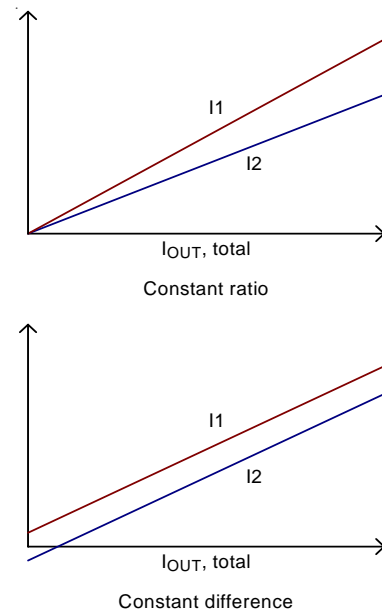

Figure 10. Category of Phase Current Imbalance
If phase current is not balanced due to asymmetric PCB layout of power stage, external resistors can be adjusted to correct current imbalance. Figure10 shows two types of current imbalance, constant ratio type and constant difference type. If the initial current distribution is constant ratio type, according to Equation (3), reducing $R_{CSN}[1]$ can reduce $I_{L1}[1]$ and improve current balance. If the initial current distribution is the constant difference type, according to Equation (2), increasing $R_{CSP}[1]$ can reduce $I_{L1}[1]$ and improve current balance.